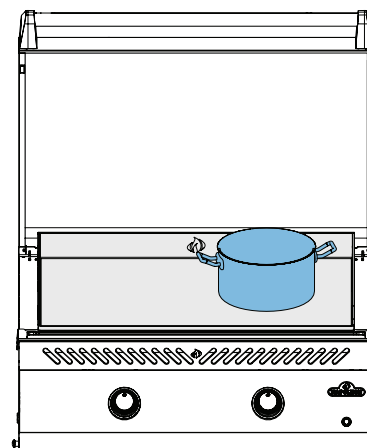

Fig. 3
- Use the griddle plate to melt or warm sauces. Place pots or pans off to one side over low to medium heat. (Fig. 3)